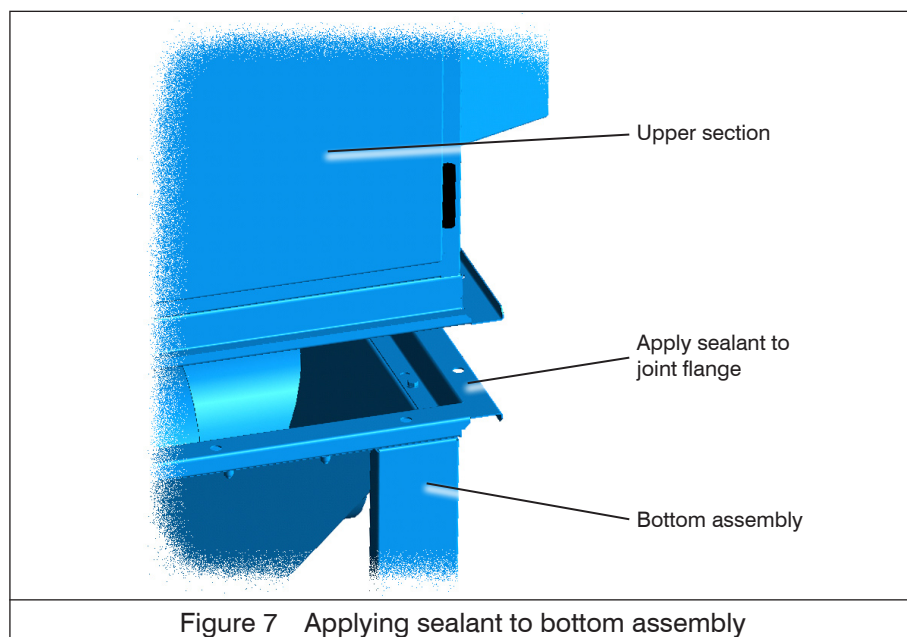

Figure 7 Applying sealant to bottom assembly
- 4 Using the sealant provided, apply two beads of sealant to the bottom assembly joint flange, one each side of the fixing holes (see fig. 7).
- 5 Using the sealant provided, apply two beads of sealant to the bottom assembly joint flange, one each side of the fixing holes (see fig. 7).